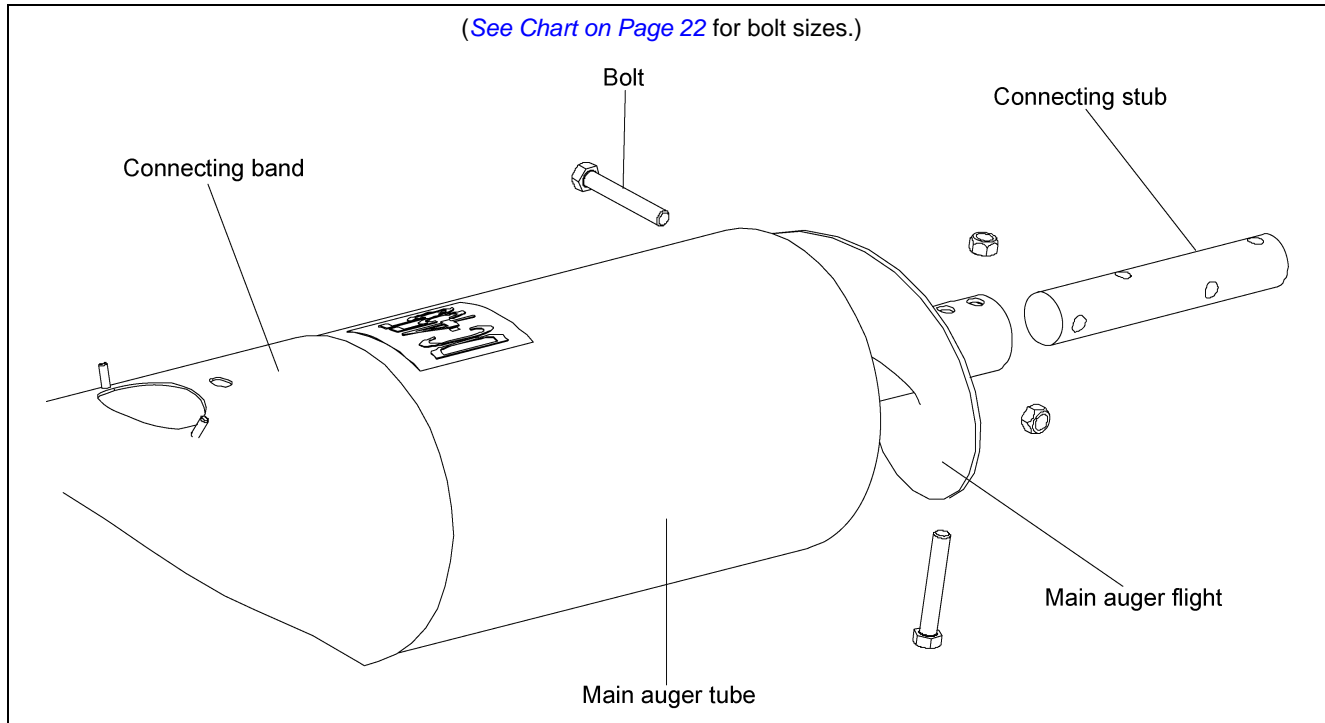

Figure 4Q
1. Slide connecting band onto main auger tube, and attach connecting stub to main auger flight using the assigned hardware. (See Chart below and Figure 4Q on Page 23.)